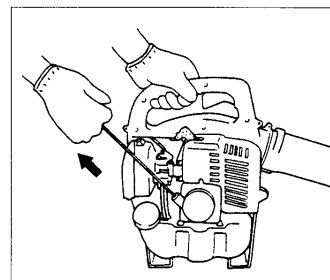

Fig. 2-5
3. Pull recoil starter briskly, taking care to keep the handle in your grasp and not allowing it to snap back. (Fig. 2-5, 5B)